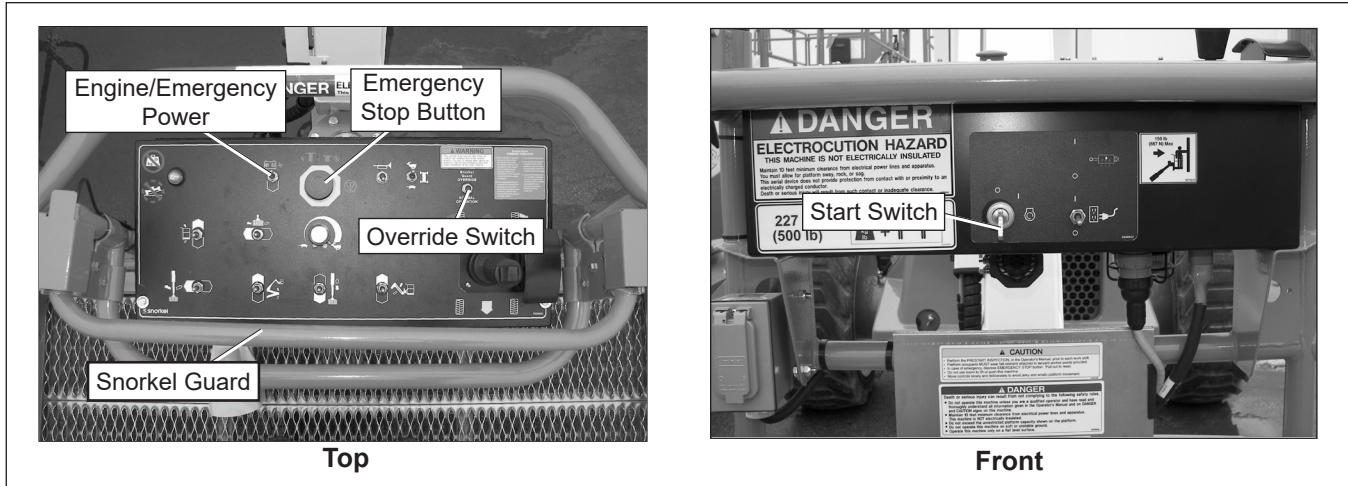

Figure 10.3 – Upper Controls
1. Pull the emergency stop button outward (refer to Figure 10.3).
When the platform overload system is activated, the override or the emergency power switch (refer to Figure 10.3) at the upper controls may be used to override the system to operate riser up/down, main boom up/down/retract, jib boom up/down, or turntable rotation and drive functions. The switch is spring returned to the normal operation position.
When the Snorkel Guard system is activated, the override switch (refer to Figure 10.3) at the upper controls may be used to override the system to operate riser up/down, main boom up/down/retract, jib boom up/down, or turntable rotation functions.